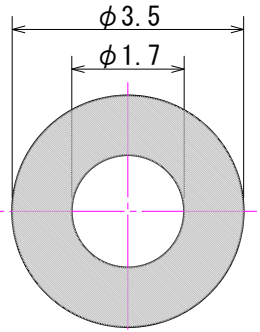

Figure 3. Example of a Recommended Nozzle Tip
2. Figure 3 shows an example of a recommended nozzle tip. Figure 4 shows correct/incorrect examples for shapes of the nozzle and LED pick-up positions for reference purposes